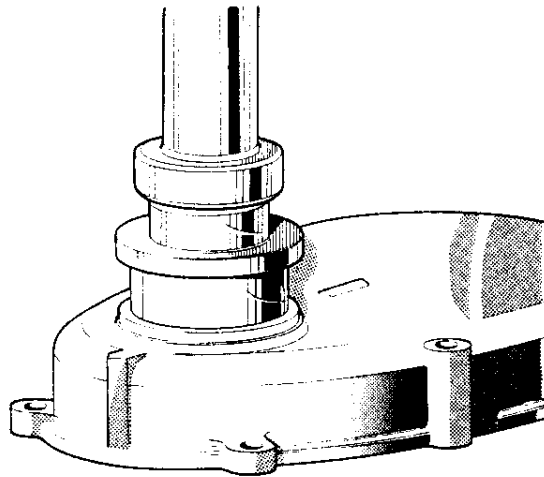

Figure 10 Extracting front cover oil seal
7. Extract the oil seal from the cover using special tool no. RT 7480 and drive handle part no. 550 (Figure 10).